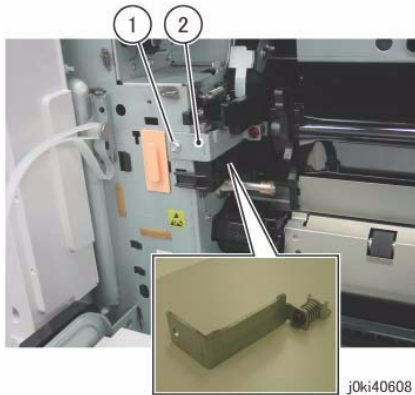

Figure 5 Remove the Rear Lock Bracket
11. Remove the Rear Lock Bracket. (Figure 5)